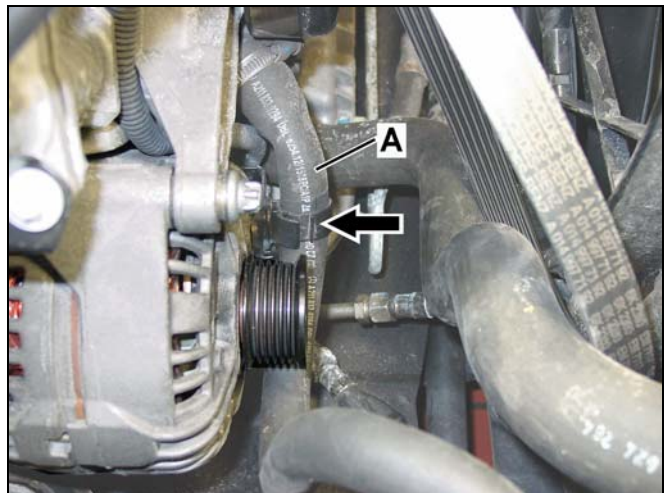

Figure 10
- **Model 211 4Matic only:** Unclip heater hose (A, Figure 10) from mounting clip (arrow).